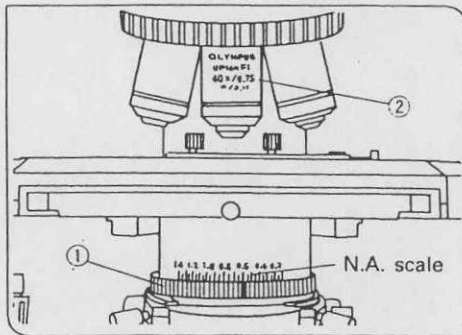

Fig. 55
Set the condenser numerical aperture to about 80% of the NA value ② indicated on the objective. (Fig. 55)